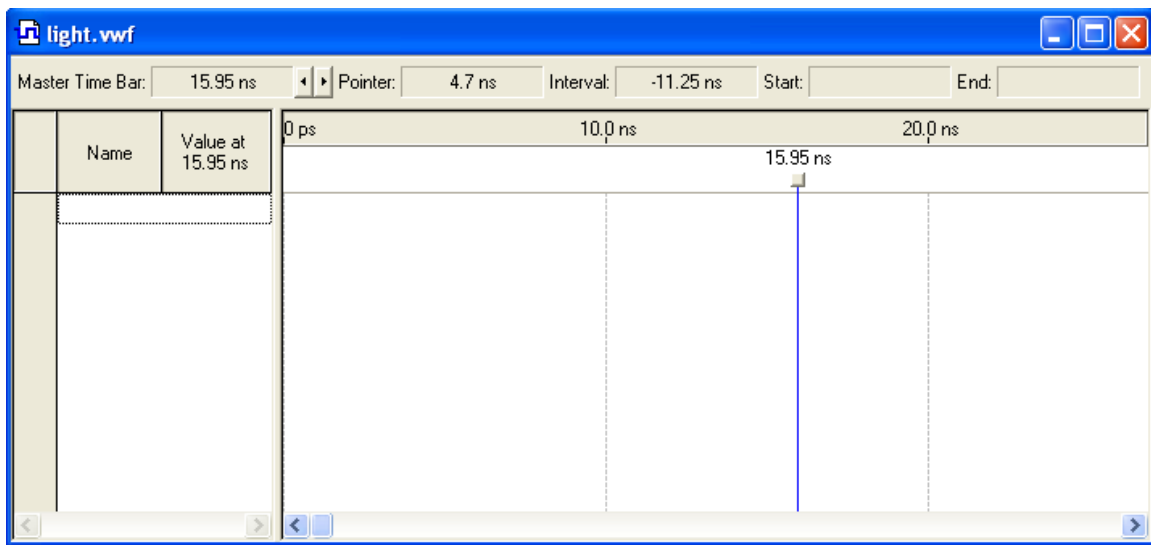

Figure 6. The Waveform Editor window.
3. The Waveform Editor window is depicted in Figure 6. Save the file under the name *light.vwf*; note that this changes the name in the displayed window.